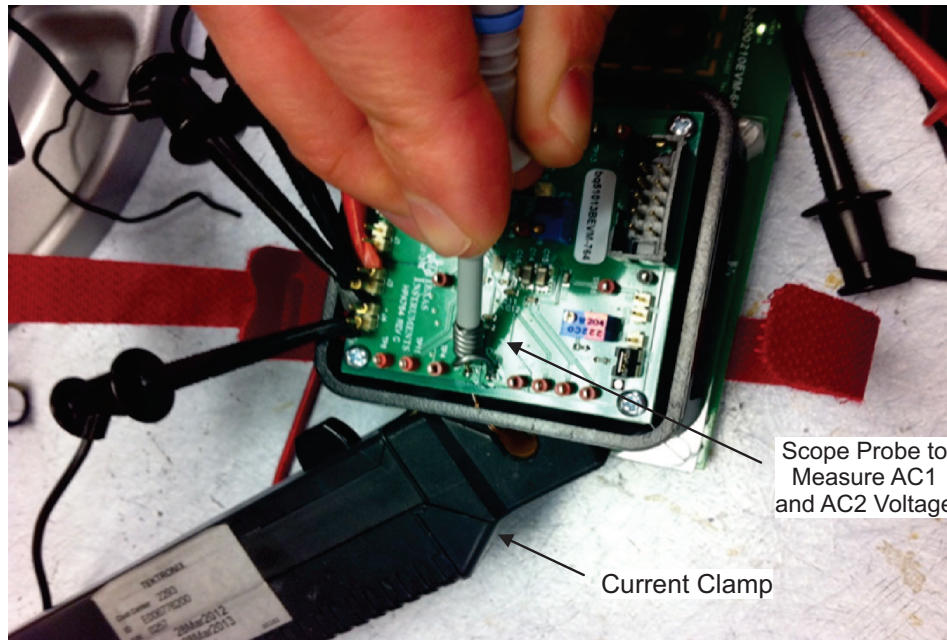

Figure 5. AC Input Power Measurements
- Use a low-noise current probe as shown in Figure 5